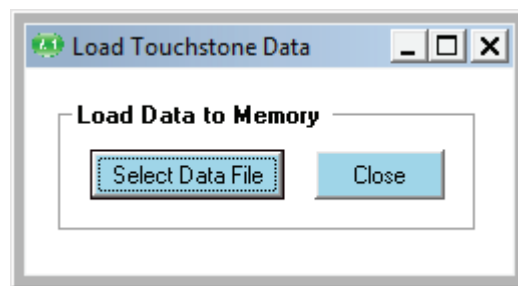

Figure 6.34 Loading data is done from the 'Load Measurement' under the 'File' menu
- Connect Port 1 to Port 2 as shown on the left-hand side of Fig. 6.34
The basic connection arrangement is shown on the right hand side of Fig. 6.34. Note that the input and output attenuators should be carefully selected to ensure that the DUT compresses whilst preventing the power at Port 2 of the instrument exceeding the nominal limit of +6 dBm. It is recommended that the following guidelines are used to estimate the value of the input and output attenuators needed.
After the attenuator values have been established and the DUT is in place (and powered up as appropriate), enter the values into the P_{1dB} control window (Fig. 6.34). Note that the output attenuation value impacts directly on the P_{1dB} value, it is important to enter an accurate value that takes into account all losses in the output path, including any connecting cable that may have been used.